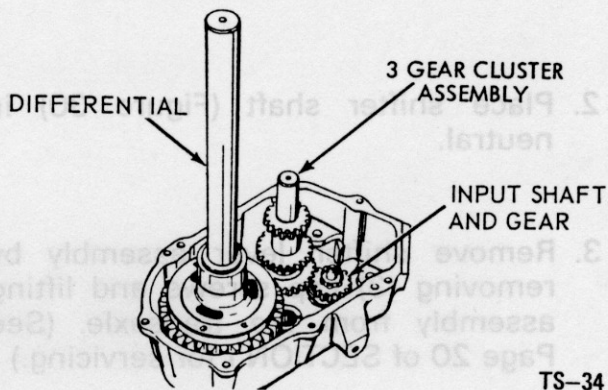

Figure 34 - Three Gear Cluster
9. Remove the three gear cluster, spacers and shaft. (Figure 34)
10. Remove the differential and axle assembly. (Figure 34) See page 29 for servicing.
11. Remove the input shaft and gear. (Figure 34)